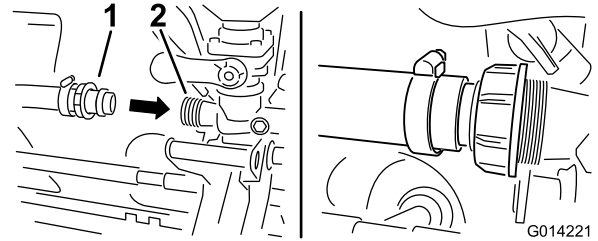

Figure 24
1. Install the remainder of the hose to forward facing, threaded opening of the eductor (Figure 24). Secure it to the eductor assembly with the plastic nut.
2. Tighten the fly nut over the threads of the eductor to secure the hose (Figure 24).